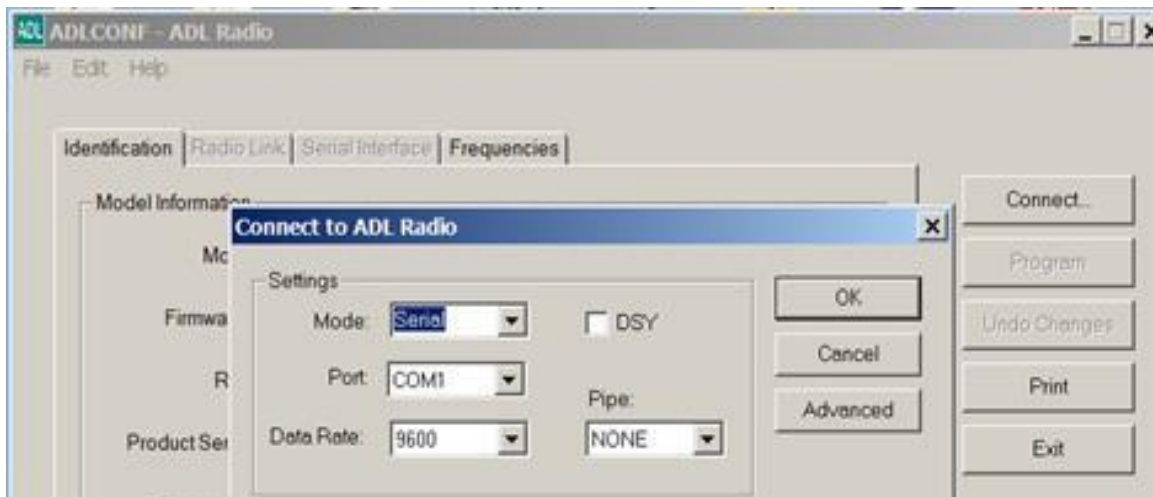

Figure 9: Connect to ADL Radio Window
- 4) Click on **Connect...**, and wait until the **Connect to ADL Radio** window opens, see Figure 9 (Page 23).